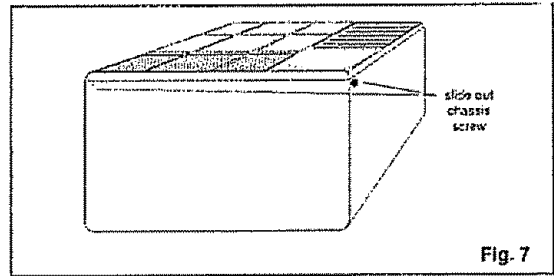

Fig. 7
- Remove the two phillips screws (lower left/right side of cabinet) securing the slide-out-chassis to the cabinet. Fig.7
- Reinstall (slide-out-chassis) security screws removed earlier from the (lower left/right) side of the cabinet. Fig 7